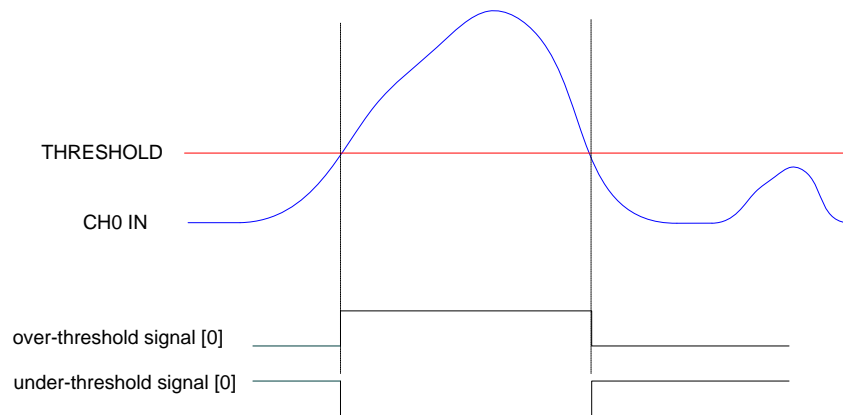

Fig. 9.6: Channel over/under threshold signal
- an *over/under-threshold signal* (see **Fig. 9.6**). This signal can be programmed to be active (i.e. “1”) as long as the input pulse is over the threshold or under the threshold (depending on the trigger polarity bit in the *Channel Configuration* register).